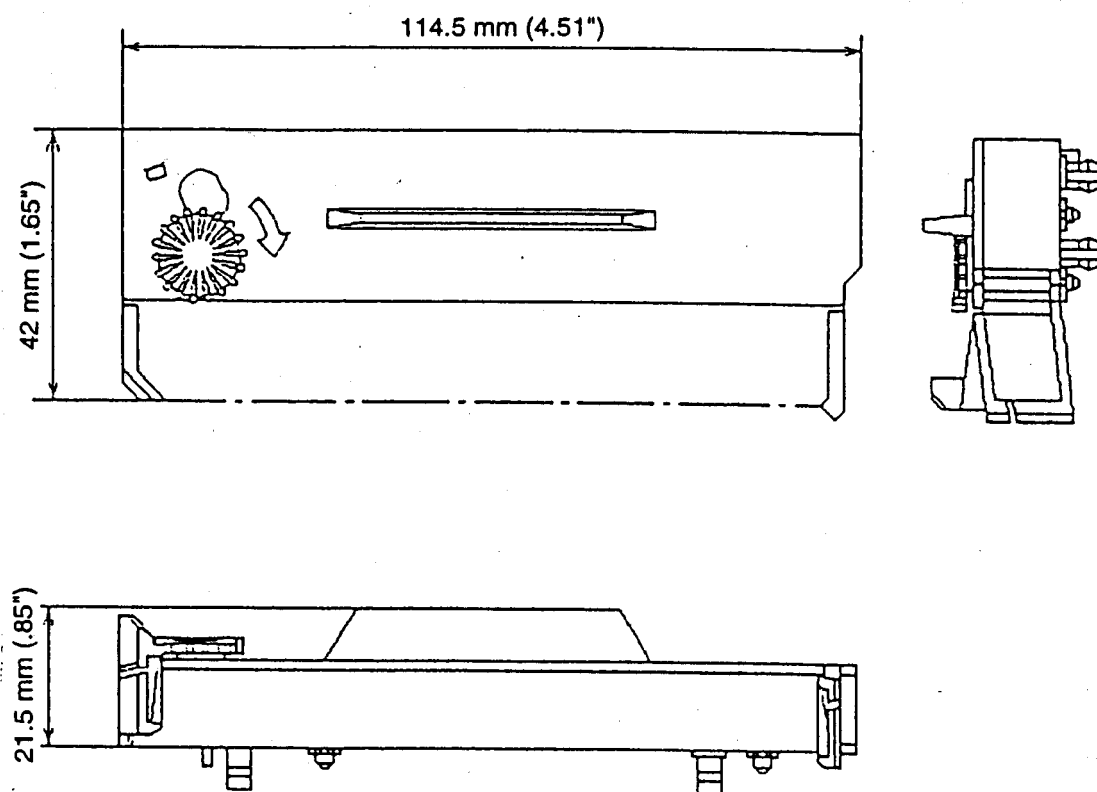

Figure 1.3.1 Ribbon Cassette Overall Dimensions
- 5) Ribbon cassette overall dimensions: Refer to Figure 1.3.1.